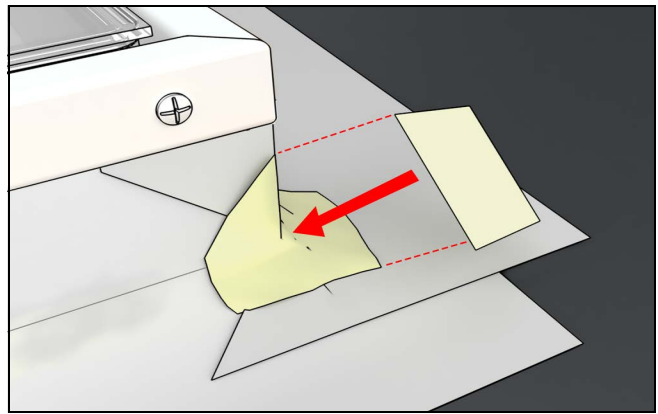

Figure 15
13. Cut out 3" diamond/square from adhesive flexible flashing. Apply diamond shaped corner patches to all corners. Stretch patches over each corner. See Figure 15.